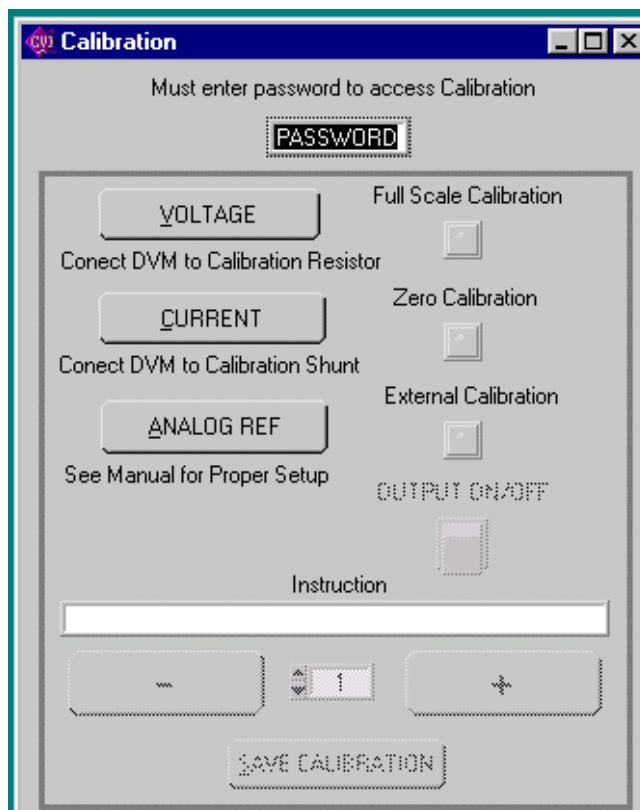

FIGURE 4-1. CALIBRATION WINDOW
6. Click the **Calibrate Access** button on the VXI plug&play demo main panel: the button label changes to **Calibrate Close** and the Calibration Window (Figure 4-1) opens with all buttons disabled (grayed out) and PASSWORD appears in the text box near the top of the window.
8. If password is correct, the status display on the VXI main panel reads **CAL** and the buttons on Calibration Screen (Figure 4-1) are enabled (highlighted). If the password is incorrect, the password text box displays "WRONG #". Repeat step 7 to enter the correct password, or click the **Calibrate Close** button on the VXI main panel to exit calibration.